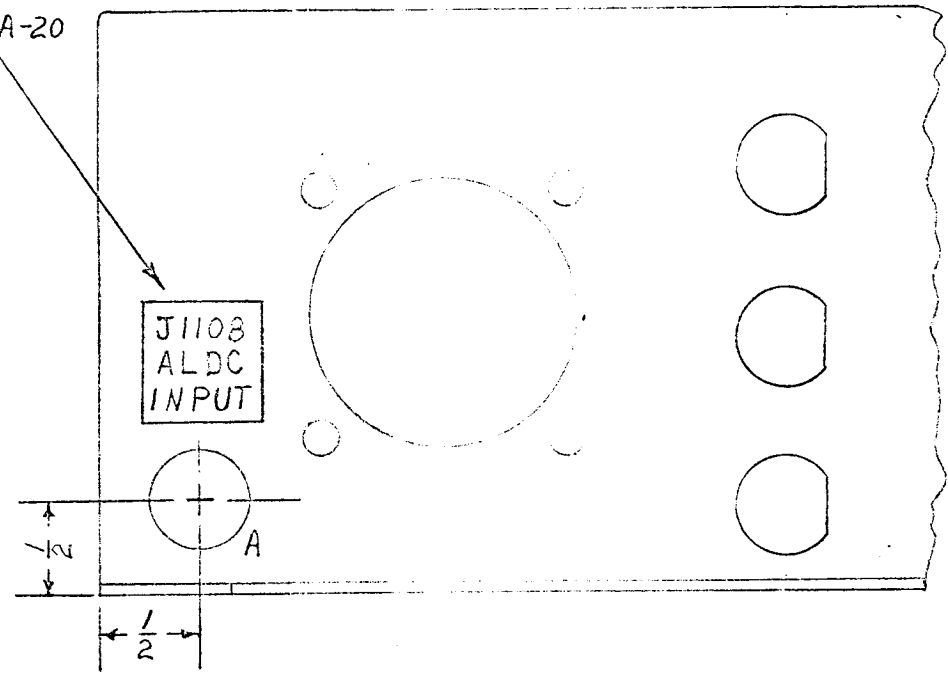

FIGURE 3\*
15. Mark appropriate spot on rear of chassis for drilling of the hole used for mounting JJ-172, (p/o CA-480-14-20, (Item 1) as shown in figure 3.
20. Affix instruction nameplate (Item 17) directly above the connector which has just been installed (refer to figure 3).